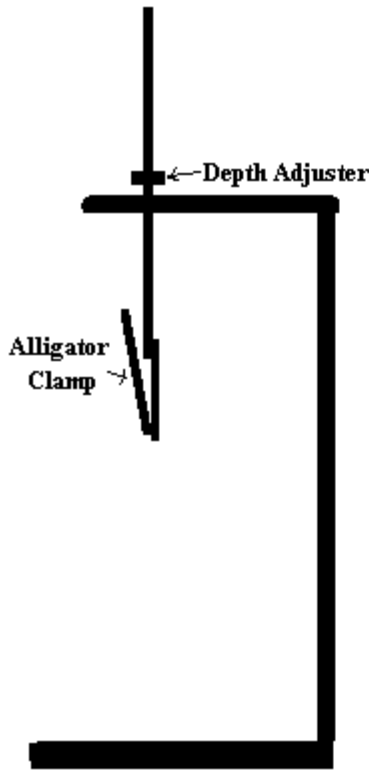

Figure 1
8. Mono-Sol 35mm Slide Mount Holder or equivalent (see Figure 1)